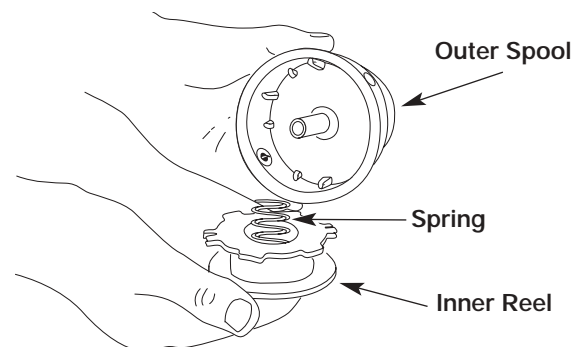

Figure 13
2. Remove the inner reel from the outer spool. See Figure 13.
3. Remove spring from the inner reel. See Figure 13.
2. Remove the old inner reel from the outer spool. See Figure 13.
3. Remove the spring from the old inner reel. See Figure 13.